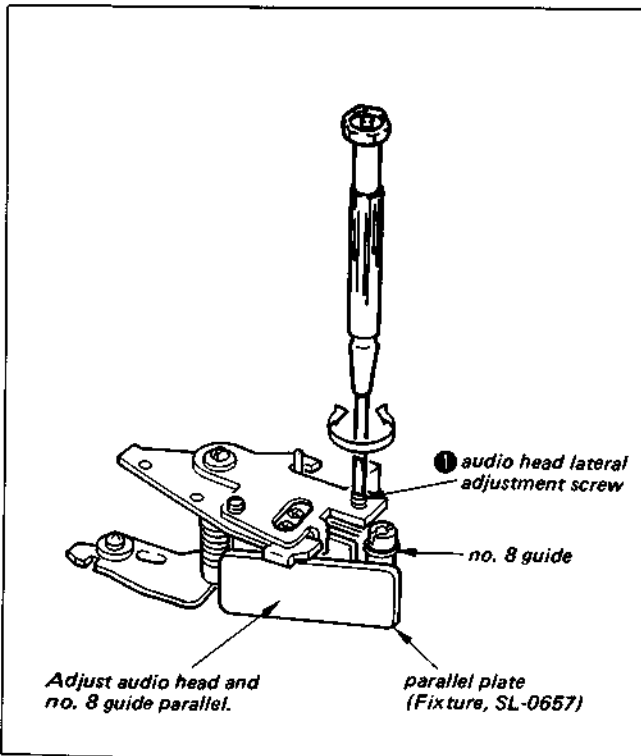

Fig. 4-8
- 1) Position the parallel plate (Fixture, SL-0657) at shown in Fig. 4-8, and turn audio head lateral adjustment screw ● to adjust the audio head vertically.